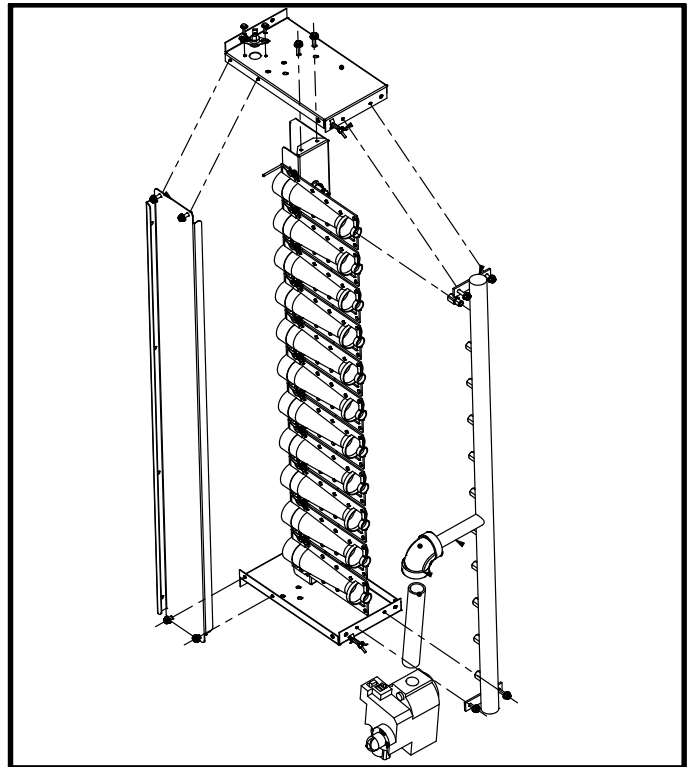

FIGURE 28
Figure 28 shows how to remove burner assembly.
- 3- Remove screws securing burners to burner support and lift burners from the orifices. See figure 28. Clean as necessary. Spark gap on ignition electrode must be properly set. See figure 21.
- 3- Remove burners as shown in section IV-SYSTEM SERVICE CHECKS figure 28 and clean as necessary. Replace burners and check spark gap.